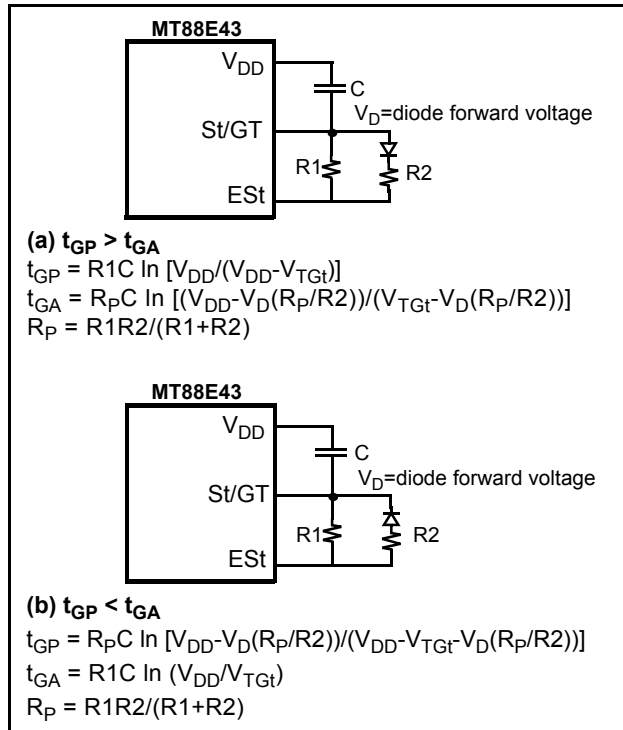
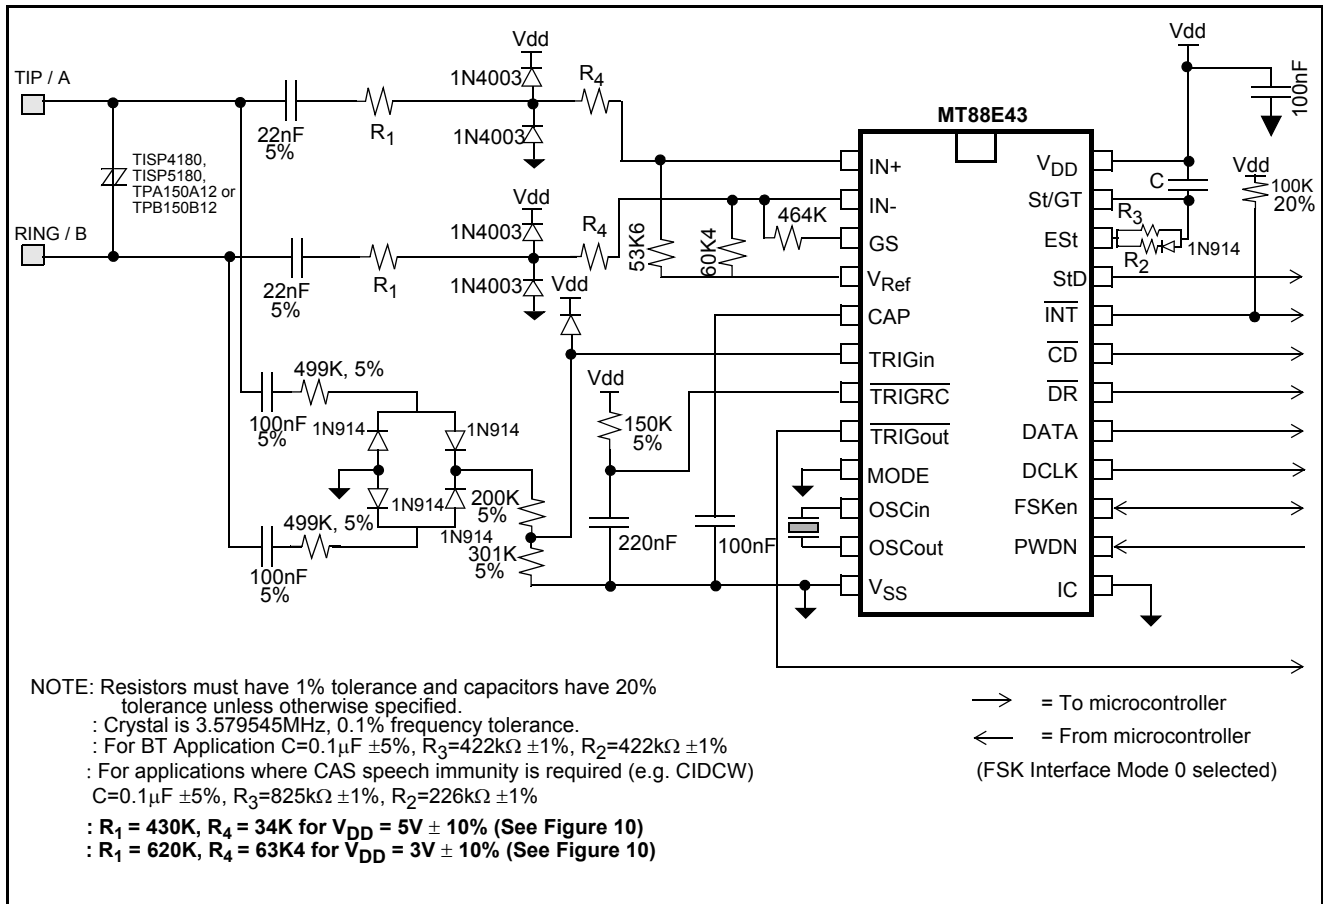
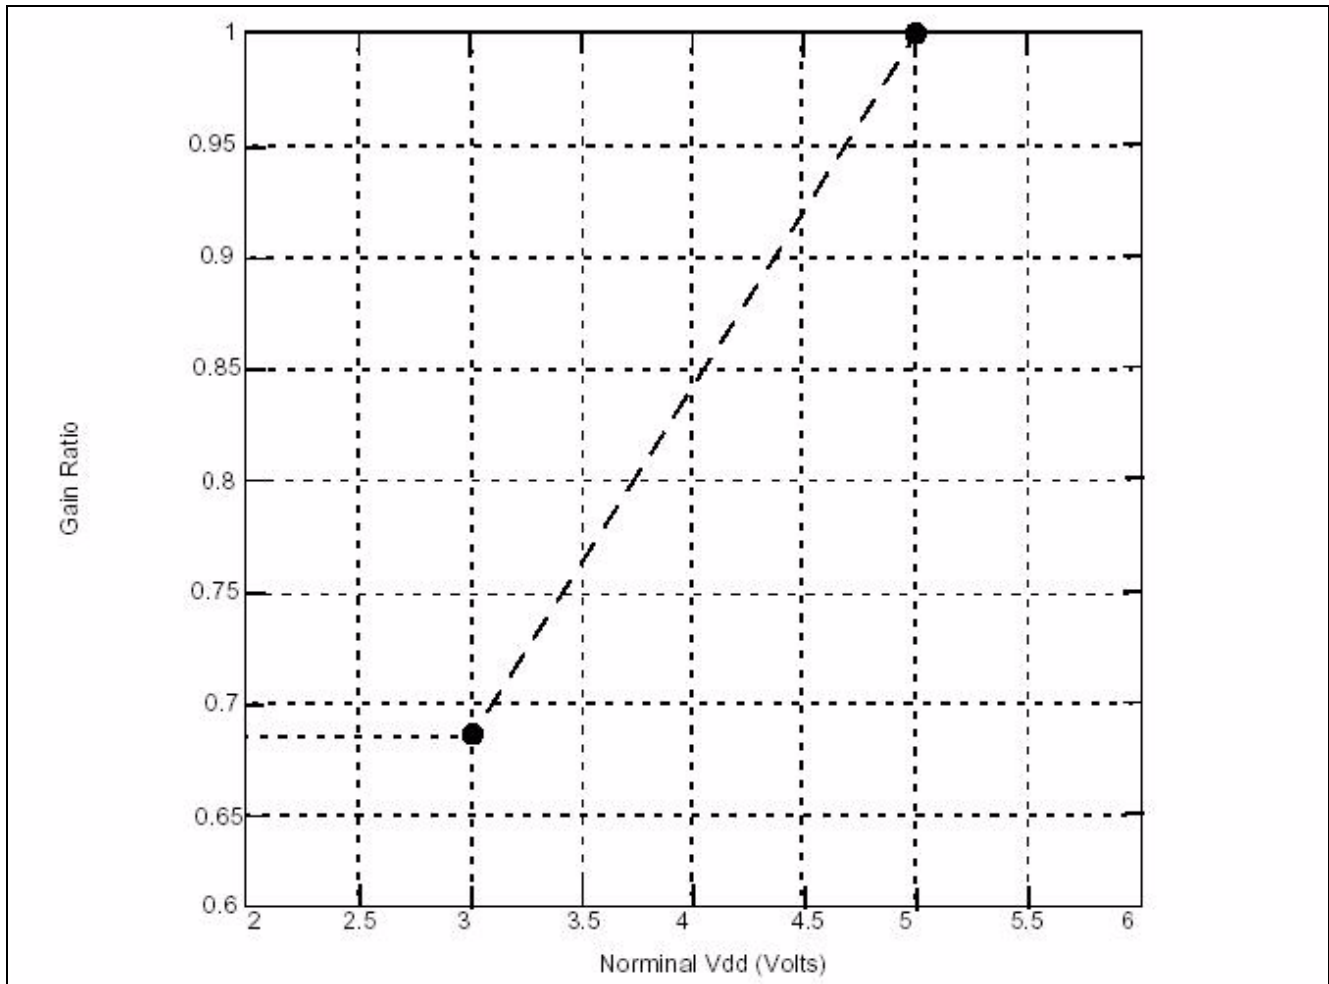

Figure 5 - Guard Time Circuits with Unequal Times
Figure 9 - Application Circuit
Figure 10 - Gain Ratio as a function of Nominal Vdd
BT specifies that the idle state tone alert signal recognition time should not be less than 20 ms when both tones are used for detection. That is, both tones must be detected together for at least 20 ms before the signal can be declared valid. This requirement can be met by setting the t_{GP} (refer to Figure 5) to at least 20 ms.
BT also specifies that the TE is required to apply a D.C. wetting pulse and an AC load 15-25 ms after the end of the alerting signal. If $t_{ABS} = t_{DA} + t_{GA}$ is 15 to 25 ms, the D.C. current wetting pulse and the A.C. load can both be applied at the falling edge of StD. The maximum t_{DA} is 8ms so t_{GA} should be 15-17 ms. Therefore, t_{GP} must be greater than t_{GA} . Figure 5(a) shows a possible implementation. The values in Figures 9 and 11 ($R2=R3=422K$, $C=0.1\mu F$) will meet the BT timing requirements.
The circuits shown in Figures 9 and 11 are application circuits for the MT88E43. As supply voltage (V_{DD}) is decreased, the threshold of the device's tone and FSK detectors will be reduced. Therefore, to meet the BT or Bellcore tone reject level requirements the gain of the internal opamp should be reduced according to the graph in Figure 10. For example when V_{DD}=5V (+/- 10%), R₁ should equal 430 k Ω and R₄ should equal 34 k Ω ; and if V_{DD}=3V (+/- 10%) R₁ should equal 620 k Ω and R₄ should equal 63.4 k Ω . Resistors R₁ and R₄ are shown in Figures 9 and 11.
The circuit shown in Figure 9 illustrates the use of the MT88E43 in a proprietary system that doesn't need to meet FCC, DOC, and UL approvals. It should be noted that if glitches on the tip/ring interface are of sufficient amplitude, the circuit will falsely detect these signals as ringing or line reversal.
Note: In the application circuits shown in Figures 9 and 11, the Gain Ratio of MT88E43 opamp is
- With gain setting as shown in Figure 10. Production tested at 3V ±10%, 5V ±10%.